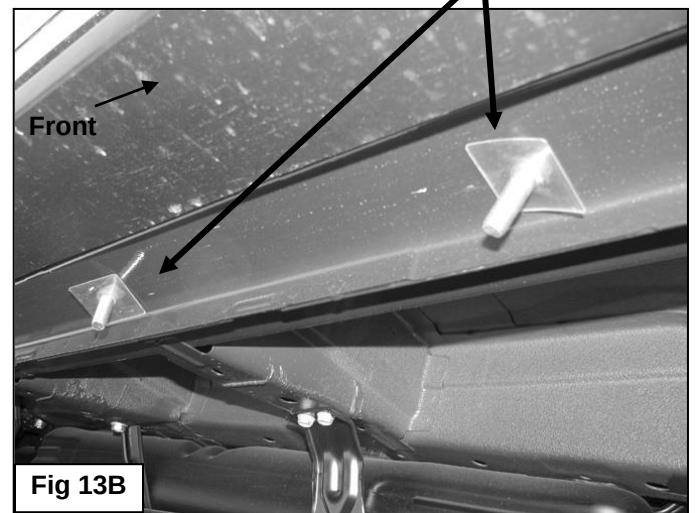

Fig 13B
12. Move along the side of the vehicle to approximately the center/back of the front door. Locate the single hole in the back of the outer frame channel, **(Figure 15B)**. Remove rubber plug if equipped. Next locate and remove the (2) rubber plugs from the bottom of the outer frame channel. Repeat **Steps 2—5** to install the (2) Bolt Plates and (1) Long Center Lock Plate to the bottom of the frame channel, **(Figures 13B & 14)**.